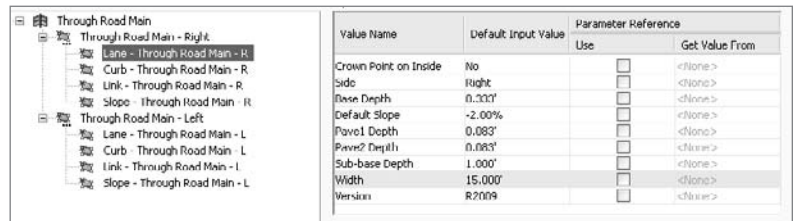

Figure 11.34
- Switch to the Construction tab of the assembly properties dialog. Select the right Lane entry. Information about the lane will appear on the right side of the dialog, including the lane width. Change the Width from 13.5' to 15', as shown in Figure 11.34.